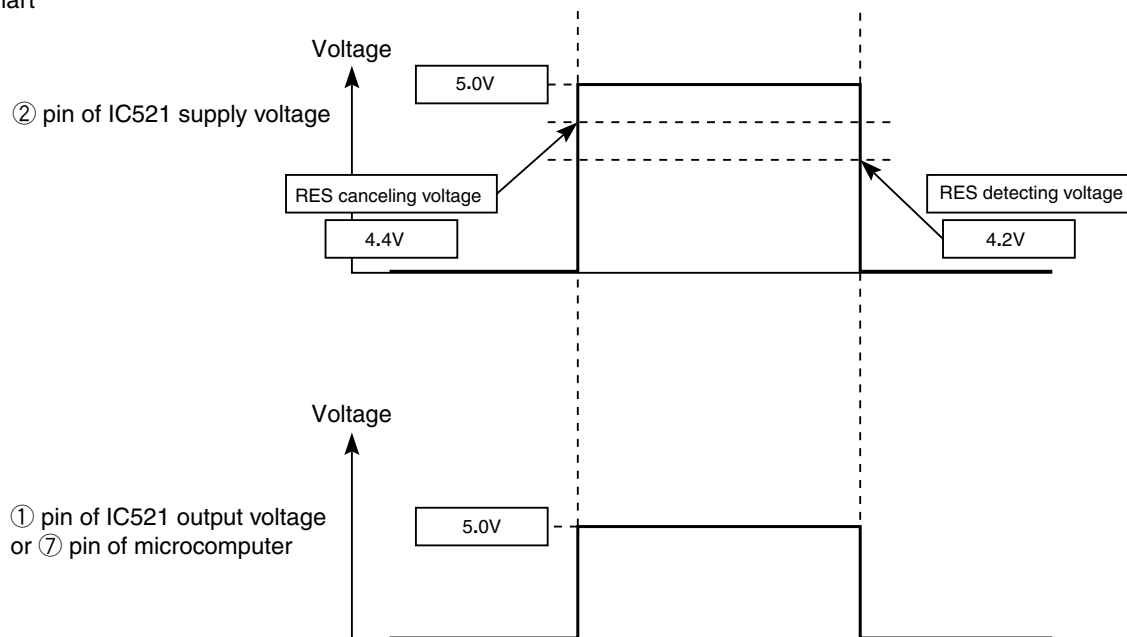

Fig.2-2
- Microcomputer operates when ⑦ pin of the indoor unit microcomputer (reset input) is "Lo" for resetting and "Hi" for activates the microcomputer.
- Waveform of each part when switching ON the power and when shutting down is shown in the Fig. 2-2.
- After switching ON the power, ① pin of IC521 supply voltage and ⑦ pin of microcomputer becomes Hi when DC5V line rises and reaches approximately 4.4V or higher.